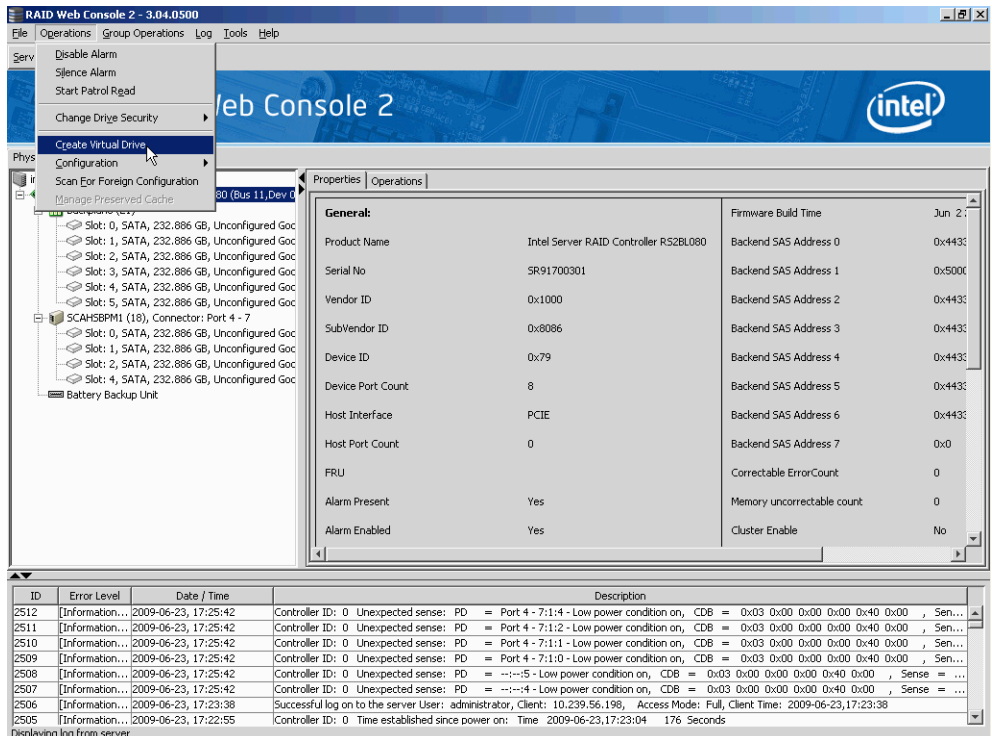

Figure 129. Virtual Drive Creation Menu
- Select the controller node and select Operations->Create Virtual Drive in the menu bar, as shown in Figure 129